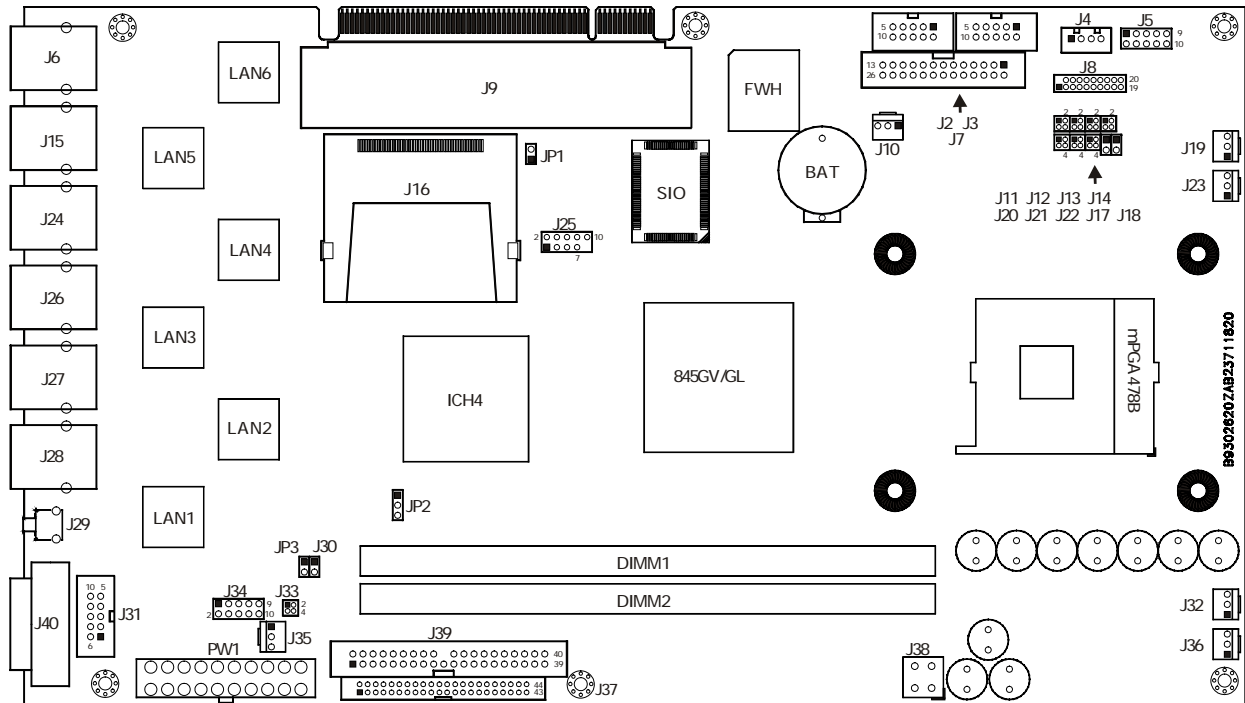

Fig.2-38 PPAP-3711VL Jumper Locations
In general, jumpers on the single board computer are used to select options for certain features. Some of the jumpers are user-configurable, which allows system enhancement. The others are for testing purpose only and should not be altered. To select any option, cover the jumper cap over (Short) or remove (NC) it from the jumper pins according to the following instructions. Here NC stands for "Not Connected". (Please refer to **Fig. 2-38** for detail jumper positions)